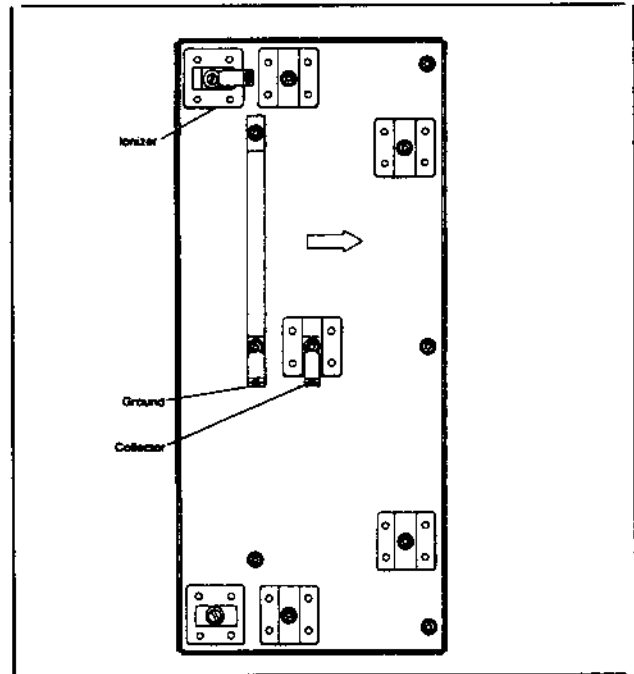

Figure 22 Cell Input Voltage Measuring Points.
- c. Using voltmeter set to the 5000 Vdc range, measure the voltage from the collector contact-to-ground (See Figure 22). Collector voltage should be approximately 4700 Vdc (reading may vary from 4250 to 4900 Vdc).
- d. Using voltmeter set to the 10000 Vdc range, measure the voltage from the ionizer contact to ground (See Figure 22). Ionizer voltage should be approximately 9400 Vdc (reading may vary from 8600 to 9600 Vdc).